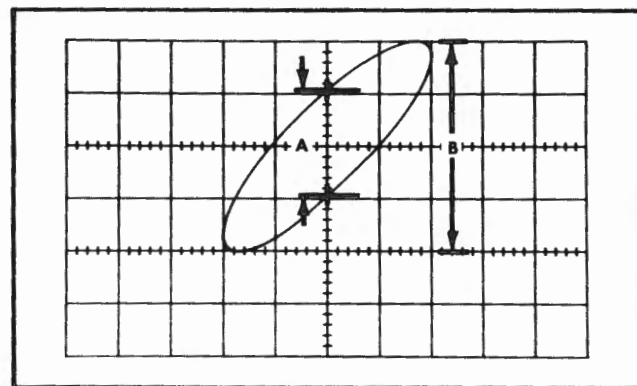

Fig. 3-8. Phase-difference measurement from an X-Y display. Sine of
4. Center the display in the viewing area and measure the two vertical distances A and B as indicated in Fig. 3-8. Distance A is the vertical measurement between the two points where the trace crosses the vertical centerline. Distance B is the maximum excursion of the display in the vertical direction.